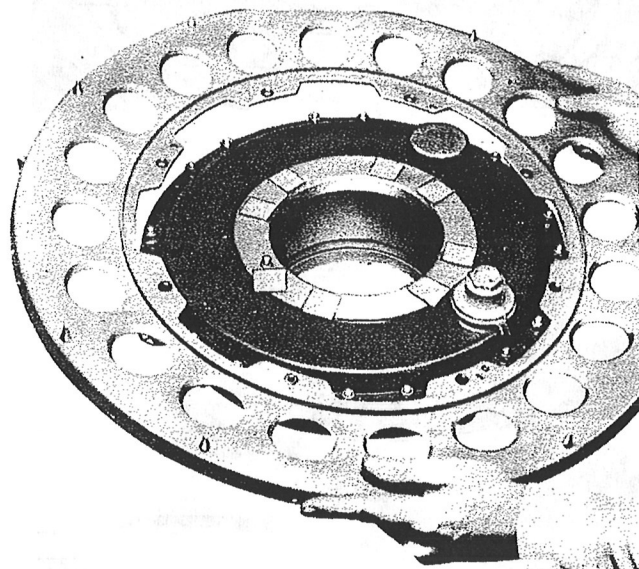

Figure 51—Removing Bulkhead
(2) Remove the spinner bulkhead. (See figure 51.)